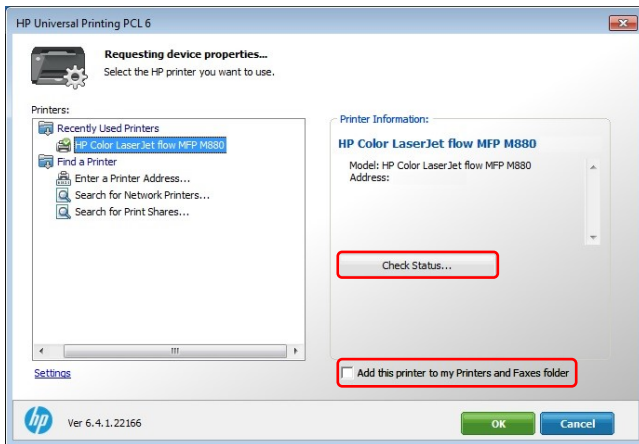

Figure 7-7 HP UPD Dynamic mode dialog box
6. To verify whether this printer contains the necessary supplies for the print job before printing, click the **Check Status** button as shown in figure 7-7.
7. To add a recently used printer to the **Printers** folder, select the **Add this printer to my Printers folder** option as shown in figure 7-7.
7. To add a recently used printer to the Printers folder, select the **Add this printer to my Printers folder** option as shown in figure 7-7.